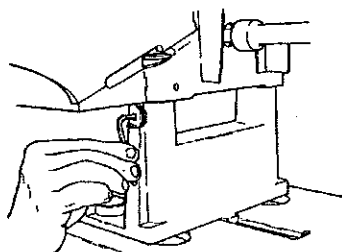

Fig.C-8
12. When you have horizontally aligned the Jointer to the Power Station, tighten both of the carriage's setscrews (22), securing the Jointer tubes, as shown in Fig.C-8.